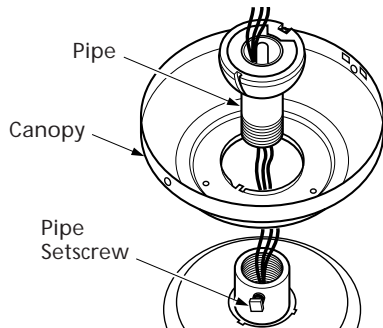

Figure 3a - Inserting Pipe through Canopy
1. Insert the pipe through the canopy as shown in Figure 3a.
2. Screw pipe into fan assembly until tight. **IMPORTANT!** Tighten pipe setscrew as shown in Figure 3a.